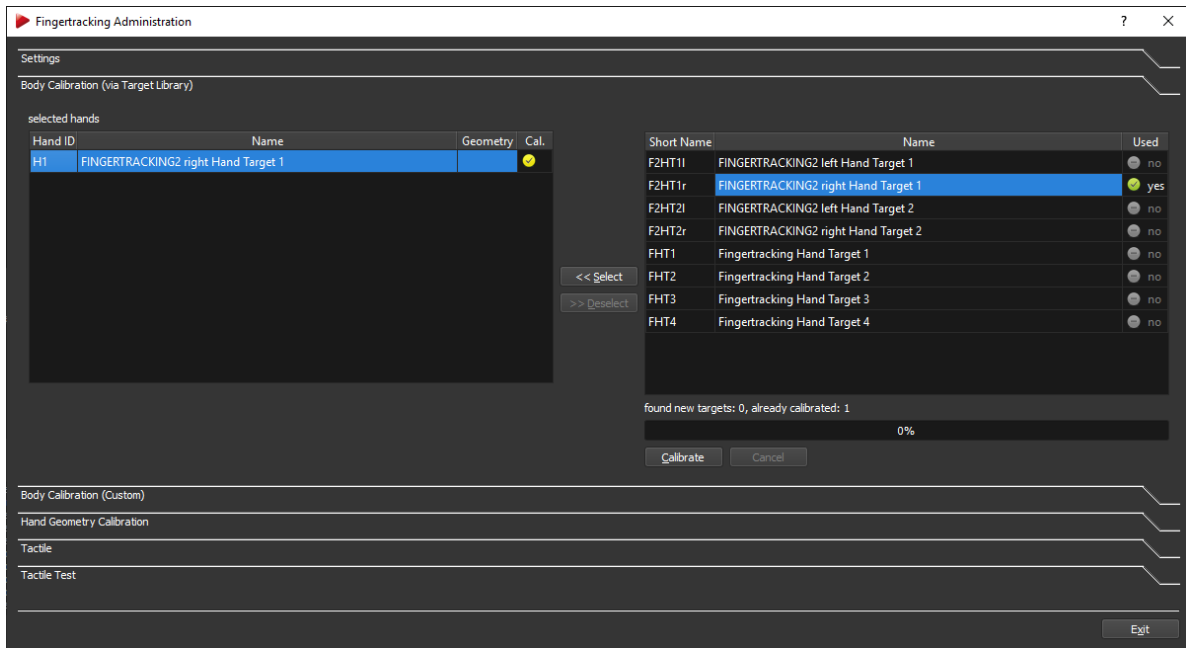

Figure 9.37: Fingertracking Administration - Body Calibration Target library
- run the target library identification by pressing *Calibrate*. The current status is shown by a progress bar while the amount of '*found new targets*' is listed (see bottom right in figure 9.37 on page 145).